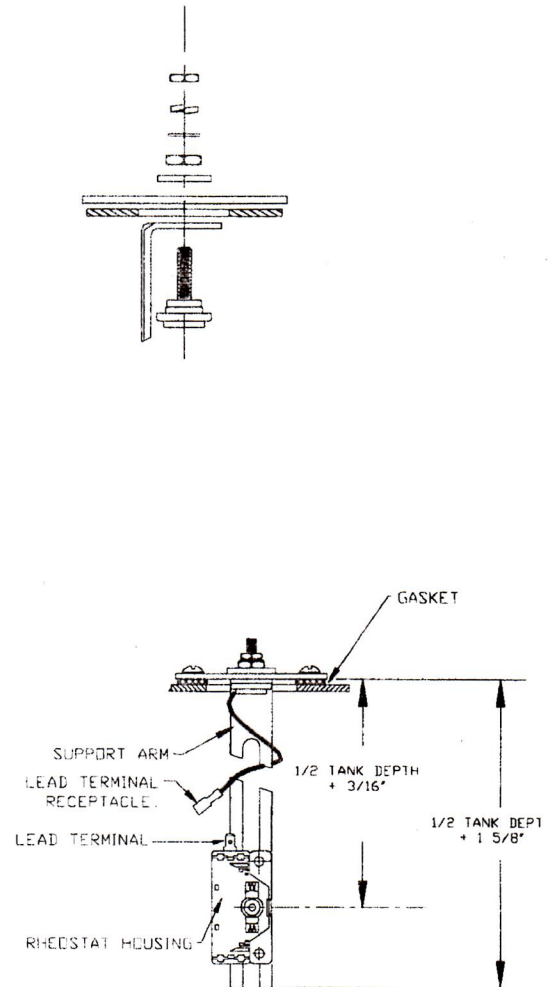

FIGURE 2
STEP 3. Remove rheostat housing and cut support arm to length, being careful not to damage the housing (Figure 2). Recommended that 1/2 tank depth + 1 5/8" be provided.
- STEP 5.** Reinstall rheostat housing assembly at $\frac{1}{2}$ tank depth + $\frac{3}{16}$ " (measured from the bottom of the mounting flange as in Figure 2). Tighten the two screws in rheostat housing to 12 – 18 inch pounds.
- STEP 6.** Connect lead terminal receptacle to the lead terminal (Figure 2). Being sure that the receptacle is seated correctly (snapped) on the terminal.